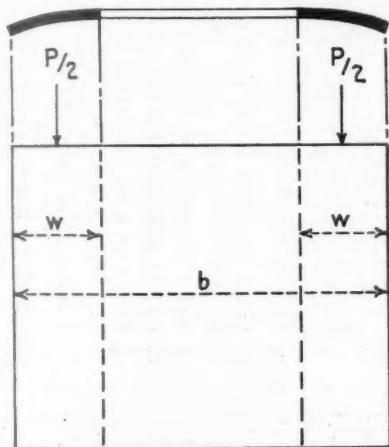

Fig. 14—Effective width of plate under edge compression
The method makes use of these facts by considering the load to be carried on strips adjacent to the edge supports having a width w , as indicated in Fig. 14. When two edges are supported, the effective width of the plate is $2w$ and is made equal to the value of b in such formulas as (32) and (44). With one free edge, the effective width is w and is made equal to b in Formula (49). In both cases S_{cr} equals the yield point stress